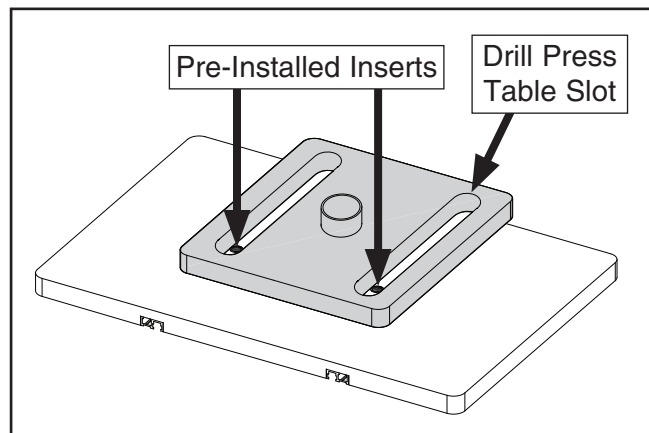

Figure 6. Model T32710 inserts viewed through drill press table slots.
6. Check if any pre-installed inserts in Model T32710 are visible through slots in drill press table (see **Figure 6**). A circular drill press table may need to be rotated.